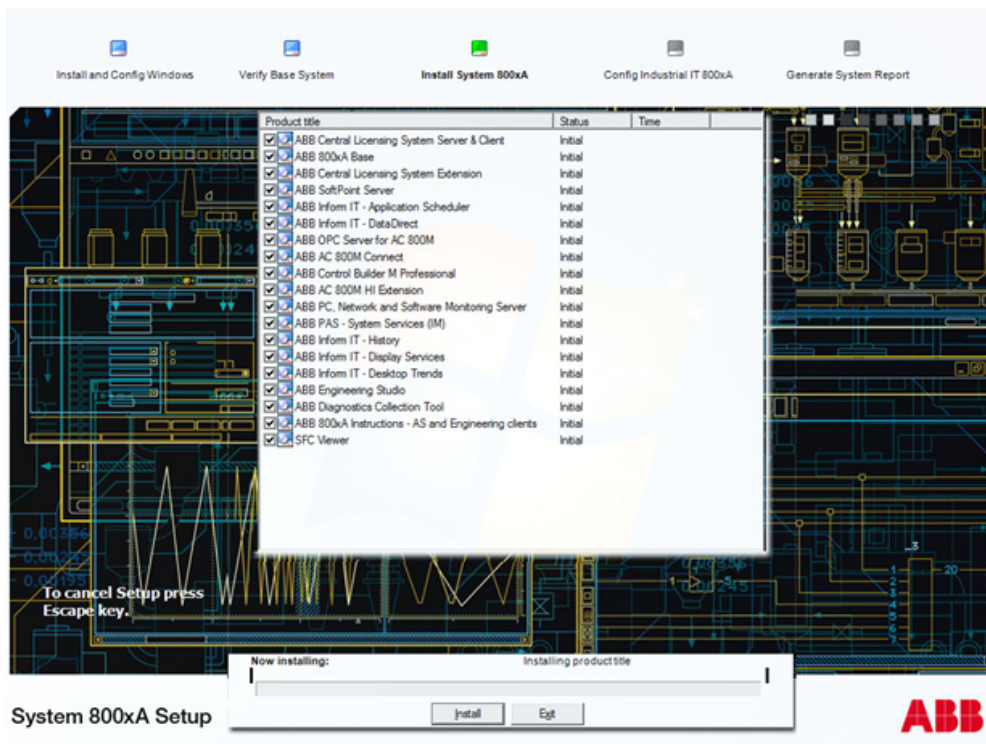

Figure 38. Installation Wizard Example
1. When the base system for a node is verified, the next part is to install the 800xA System software. The Installation Wizard (Figure 38) lists the products to be installed. Click **Install** to begin the installation. During the installation, the progress bar will indicate which application is being installed and the progress of the installation.